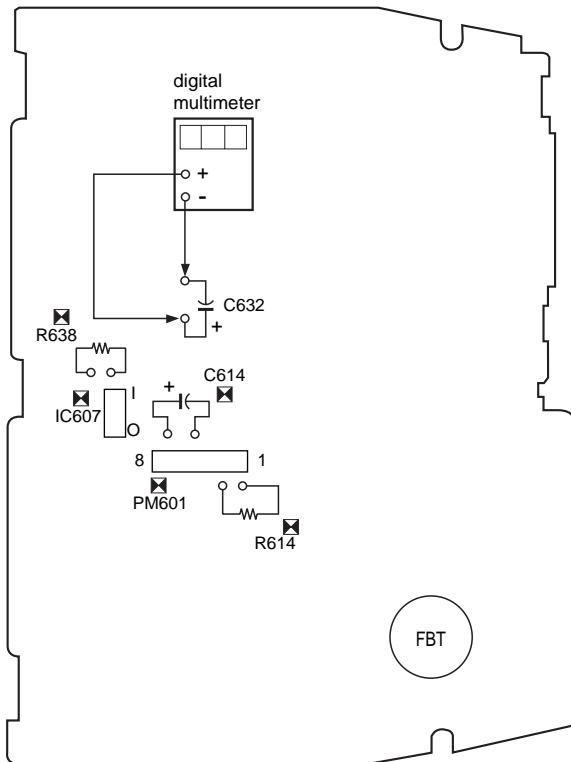

Fig.4-2
- 3) Connect the digital multimeter to \oplus line of C632. (Fig.4-2)